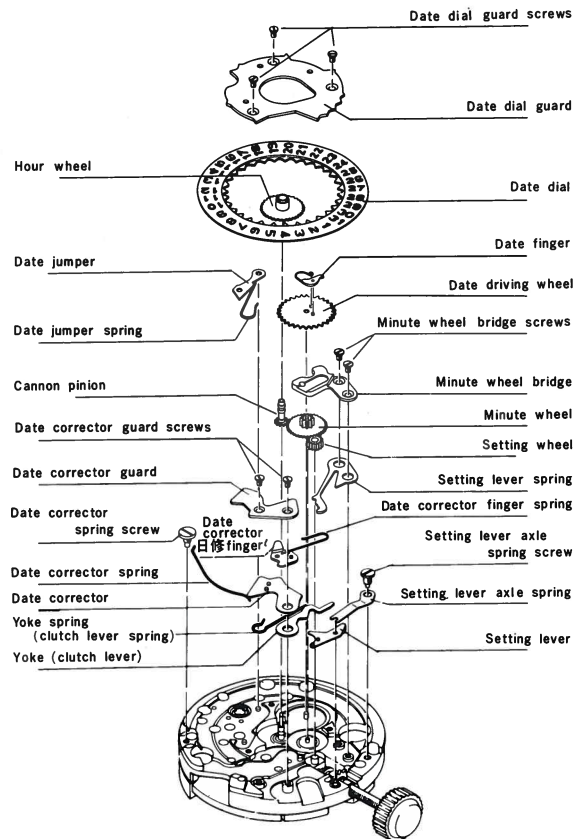

Fig. 6
3)-1 Exploded view of calendar mechanism (Fig. 6)